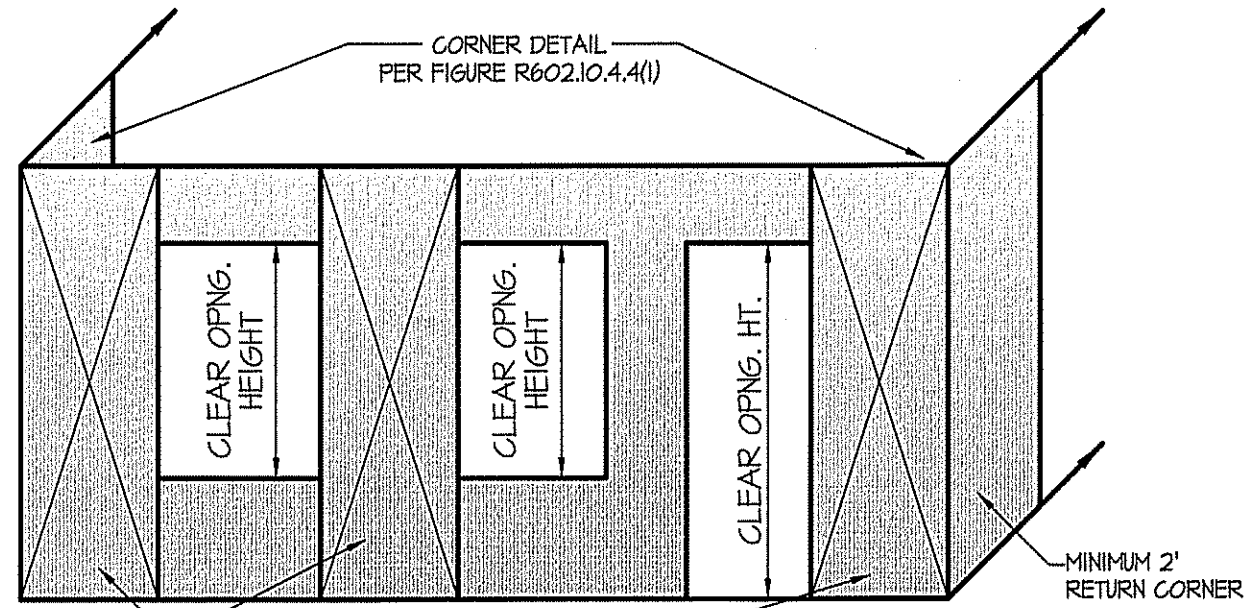

FIGURE R602.10.4.4(2)
FOR ALL CONTINUOUS SHEATHING METHODS, FULL HEIGHT BRACED WALL PANELS COMPLYING WITH THE LENGTH REQUIREMENTS OF TABLE R602.10.4.2 SHALL BE LOCATED AT EACH END OF A BRACED WALL LINE WITH CONTINUOUS SHEATHING AND AT LEAST EVERY 25 FEET (7620 mm) ON CENTER. A MINIMUM 24 INCH (610 mm) WOOD STRUCTURAL PANEL CORNER RETURN SHALL BE PROVIDED AT BOTH ENDS OF THE BRACED WALL LINE WITH CONTINUOUS SHEATHING IN ACCORDANCE WITH FIGURES R602.10.4.4(1) AND R602.10.4.4(2). IN LIEU OF THE CORNER RETURN A HOLD-DOWN DEVICE WITH A MINIMUM UPLIFT DESIGN VALUE OF 800 POUNDS (3560 N) SHALL BE FASTENED TO THE CORNER STUD AND TO THE FOUNDATION OR FRAMING BELOW IN ACCORDANCE WITH FIGURE R602.4.4(3).